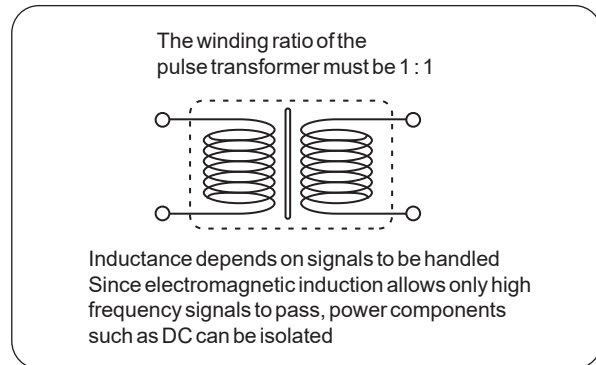

Fig. 9.1 Pulse Transformer
- (1) Electronic components (such as circuit boards) containing center ICs and satellite ICs in the HLS can be electrically insulated from the network (Fig. 9.1).
- (2) If there is no pulse transformer and a failure occurs where the driver continuously drives the network, all signal transmissions will cease, forcing the entire user system to stop. If used, a pulse transformer never allows DC components to pass. Therefore, only inoperable terminals fail to transmit signals, having no adverse effect on other terminals.